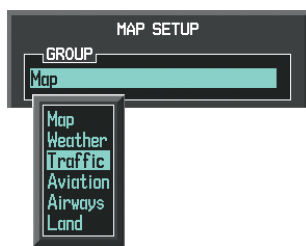

Figure 6-95 Navigation Map Page Setup Menu
- 4) Turn the small **FMS** Knob to select the Traffic Group and press the **ENT** Key (Figure 6-95).